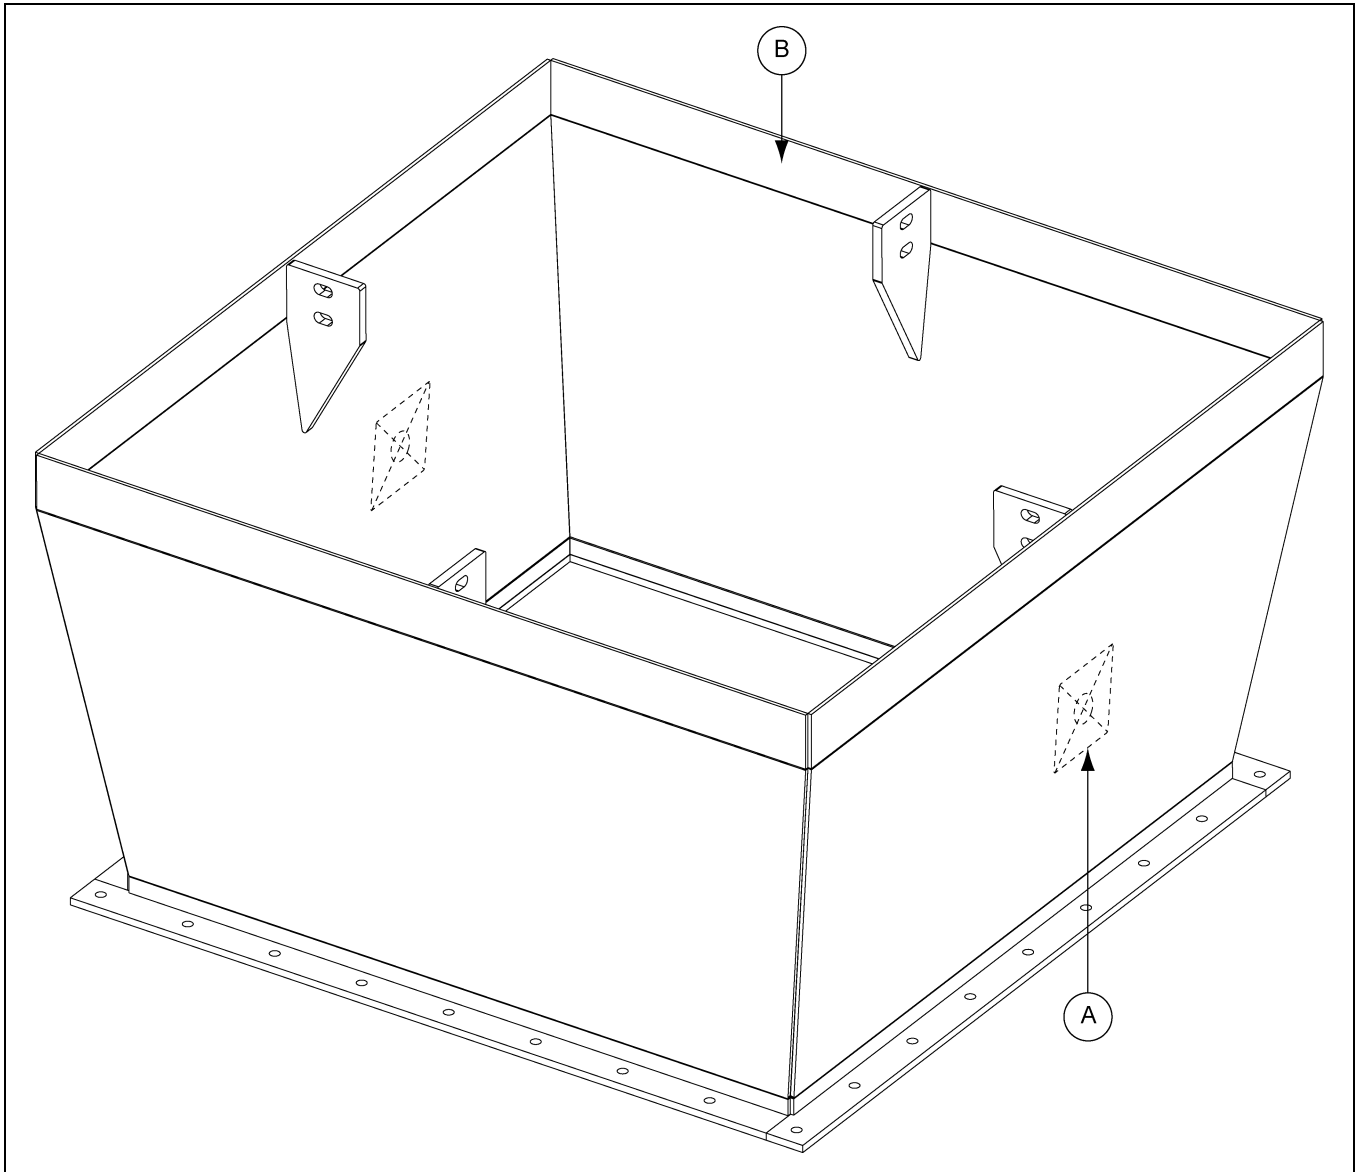

Figure 4G
1. Locate the traced outlines (A) that were created on the inside wall of the center well (B) during the track installation. (See Figure 4G.)